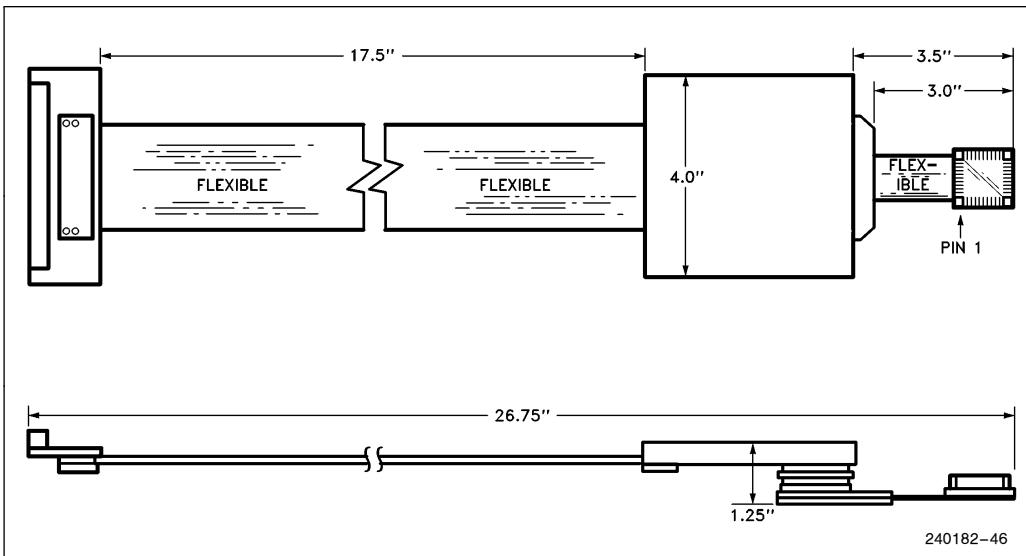
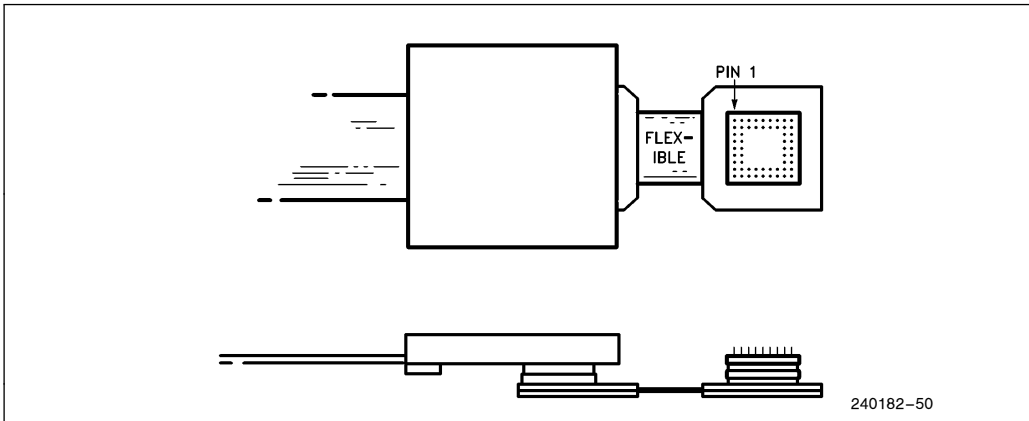
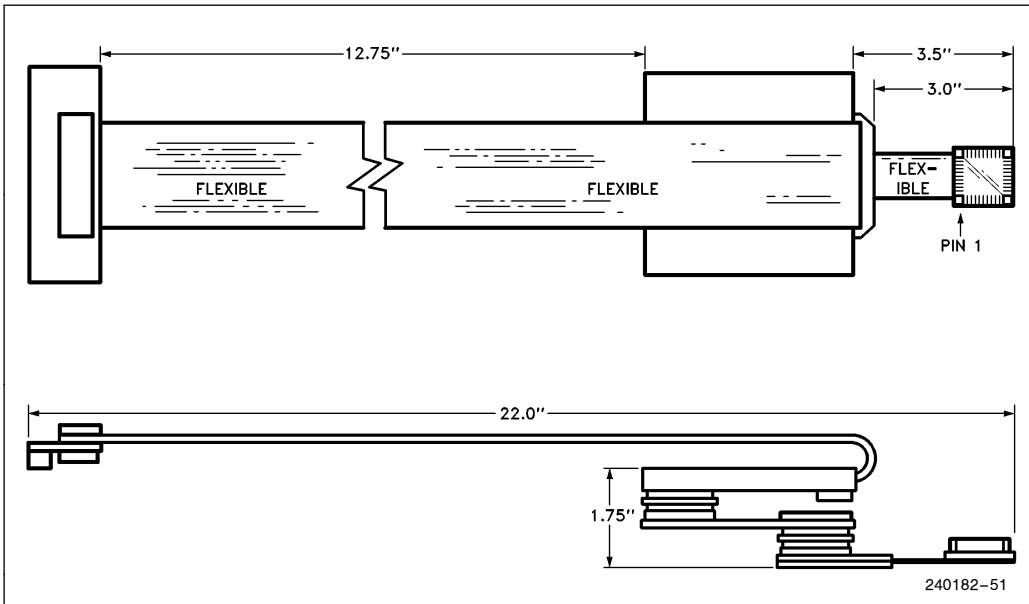

Figure 6.12. Preliminary ICE™-376 Emulator User Cable with PQFP Adapter
Figure 6.13. ICE™-376 Emulator User Cable with 88-Pin PGA Adapter
Figure 6.14. ICE™-376 Emulator User Cable with OIB and PQFP Adapter
**80376 Location and Orientation:** The ICE-376 emulator processor module may require lateral clearance. Figure 6.12 shows the clearance requirements of the iMP adapter and Figure 6.13 shows the clearance requirements of the 88-pin PGA adapter. The
optional isolation board (OIB), which provides extra electrical buffering and has the same lateral clearance requirements as Figures 6.12 and 6.13, adds an additional 0.5 inches to the vertical clearance requirement. This is illustrated in Figure 6.14.